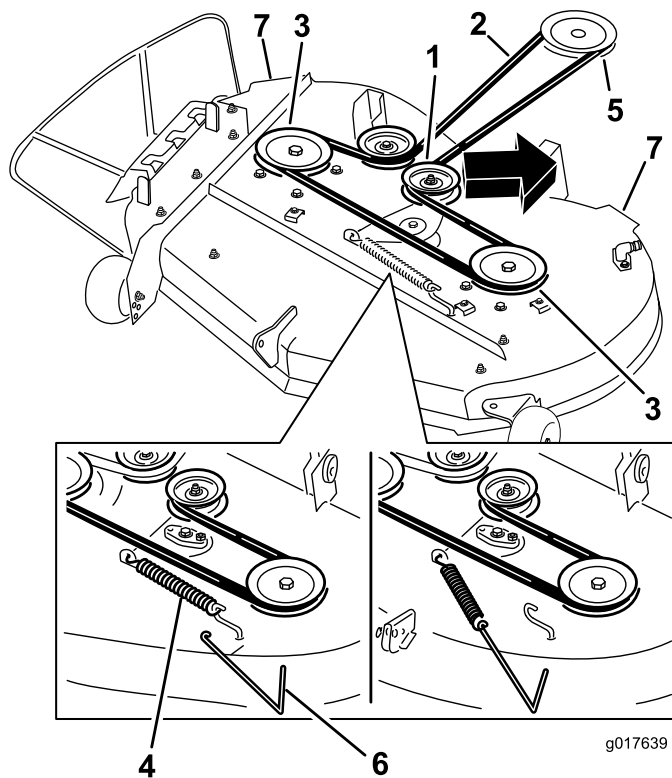

Figure 60
4. Using a spring-removal tool (Toro part no. 92-5771), remove the idler spring from the deck hook to remove tension on the idler pulley, and roll the belt off the pulleys (Figure 60).
5. Route the new belt around the engine pulley and mower pulleys (Figure 60).
6. Using a spring-removal tool (Toro part no. 92-5771), install the idler spring over the deck hook, and place tension on the idler pulley and mower belt (Figure 60).